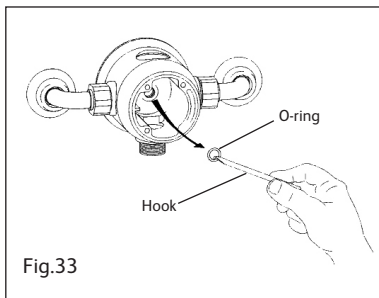

Fig.33
9. Carefully remove the existing O-ring using a suitable tool i.e. crochet hook or similar, take care to avoid any damage to the seating (Fig 33).